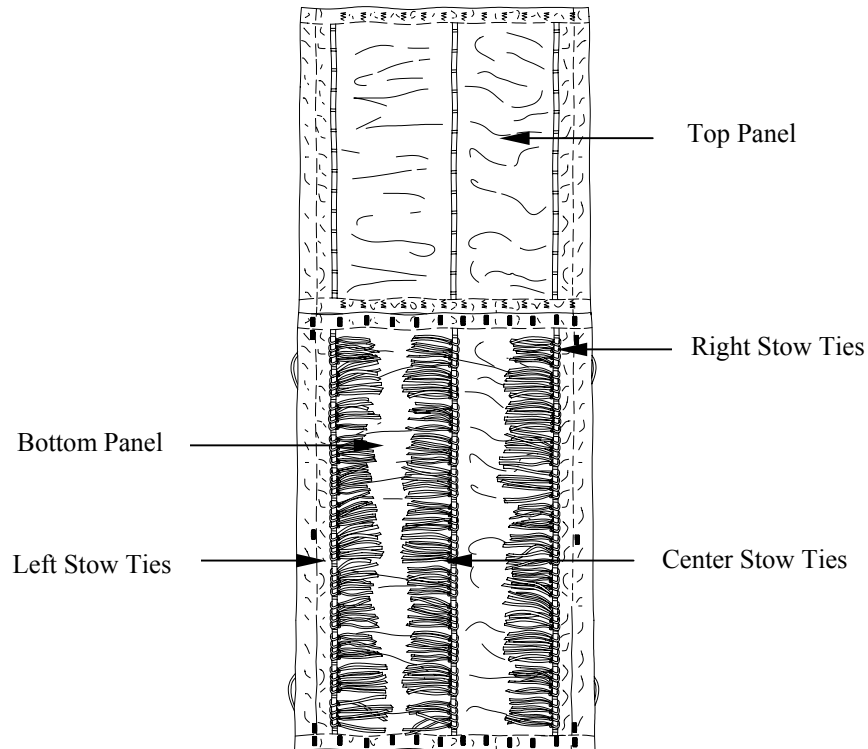

Figure 3. Two Panel Layout for Stowing 160-Foot One Loop Extraction Line.
- b. Cut one hundred and thirty two 16-inch lengths of type I, 1/4-inch cotton webbing for use as extraction line stow loop ties. Girth-hitch 44 on the right, 44 in the center, and 44 on the left row of stow loops bottom panel (figure 3).